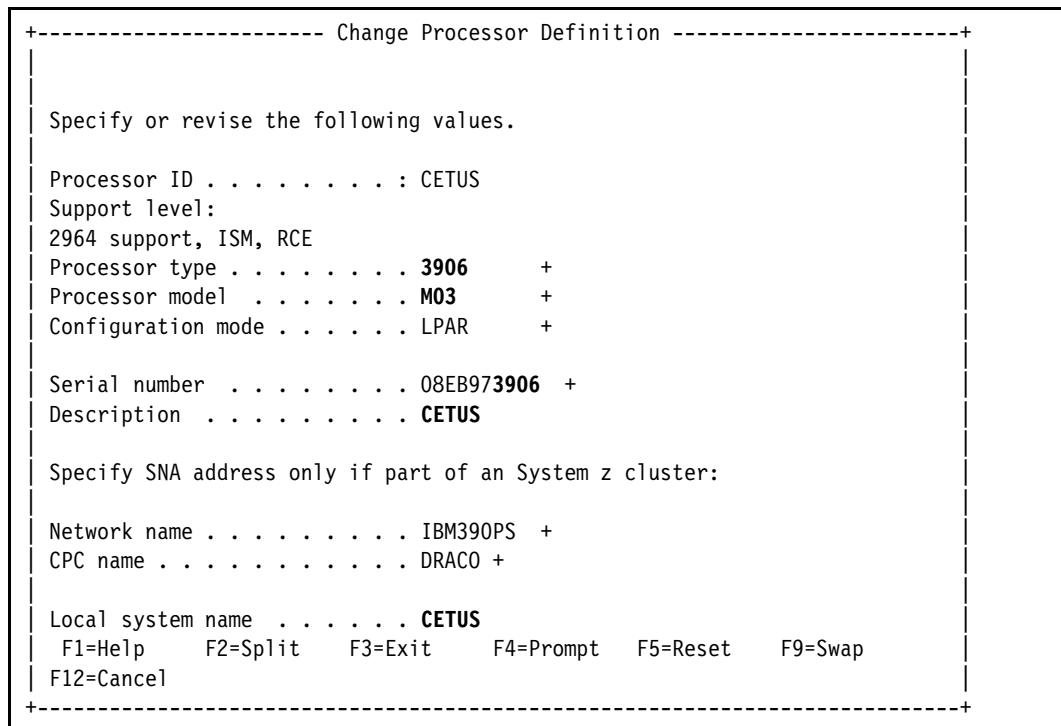

Figure 3-5 Processors: Change Processor Definition
1. Enter c (for change) next to CETUS to change the 2964 to a 3906 and press **Enter**. The Change Process Definition panel opens (Figure 3-5).